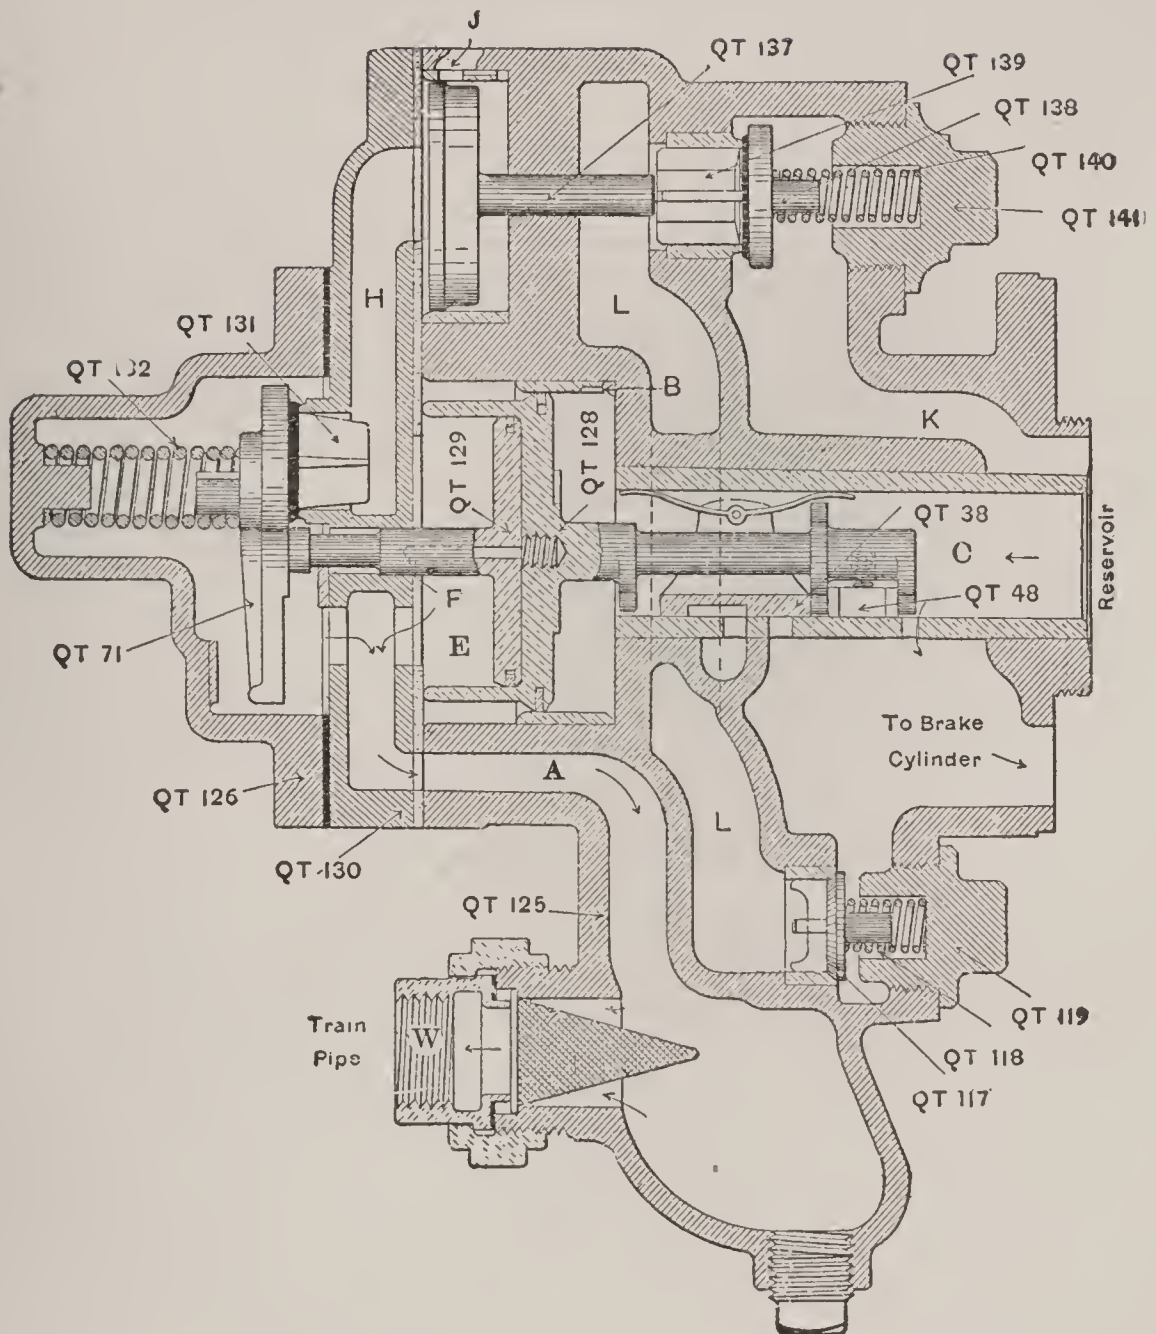

Fig. 29.
**Operative Parts.** Fig. 29 shows the following principal operative parts of the New York quick action triple valve in service application; QT 128, Main Triple Piston; QT 38, Exhaust Slide Valve; QT 48, Graduating Slide Valve; QT 129, Vent Piston.
**Service Application.** When a service reduction of brake pipe air is made, reducing the pressure in chamber E, the auxiliary reservoir pressure being the greater forces piston QT 128 toward the weaker pressure, closing feed groove B. Port F is made of such size that when main piston QT 128 moves slowly to the left in a service application, as shown in Fig. 29, thereby reducing the size of chamber G, the air in chamber G will pass through port F to the brake pipe, without moving piston QT 129 from its normal position. In a service application the triple piston moves over only a portion of its stroke, bringing the small service port in the slide valve QT 48 opposite the port in its seat leading to the brake cylinder, the quantity of air admitted being in proportion to the brake pipe reduction. If the brake pipe pressure is reduced but little, the pressure in the auxiliary is reduced by expansion into the brake cylinder to slightly less than